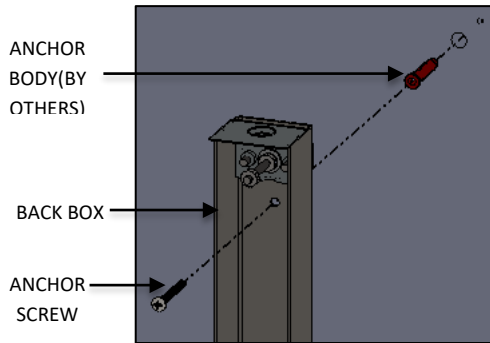
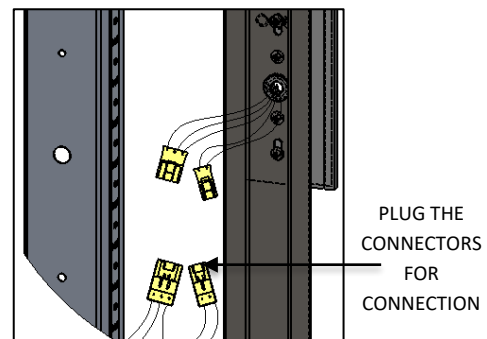

FIG. 14- BACK BOX INSTALLATION
FIG. 15- BACK BOX INSTALLATION
8. Reattach back box to JUNCTION BOX (by others) use additional ANCHOR SCREWS (by others) for support shown below in FIG. 14. Plug wire connectors to their corresponding connector between fixture (fixture harness) and building supply (8" WIRE WHIP) as shown below in FIG. 15